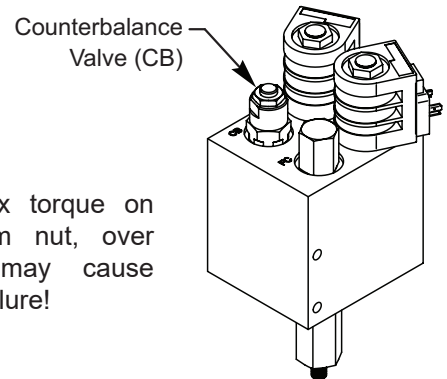

FIGURE 12 - COUNTERBALANCE VALVE
- b. If the platform continues to move downward, raise the platform and engage the Maintenance Pin, See page 6. Loosen the lock nut on counterbalance valve while holding adjusting screw with a hex key wrench, See figure 12. Rotate the adjustment screw 1/8 of a turn clockwise. Tighten locknut while holding adjustment screw. Disengage Maintenance Pin and verify step #1A performance. If ok, proceed to step 2. If not, repeat step #1B.
- c. If the platform does not easily break and lower to below dock level, raise platform and engage the Maintenance Pin. See page 6. Loosen the lock nut on the counterbalance valve while holding the adjusting screw with a hex key wrench. See figure 12. Rotate the adjustment screw 1/16 of a turn counterclockwise. Tighten locknut while holding the adjusting screw. Disengage Maintenance Pin and verify that both steps #1 and #2 have been met. Repeat if necessary.